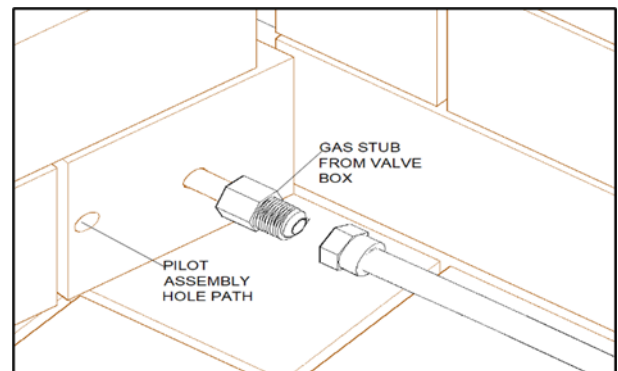

FIGURE 8
7. Connect the open end of 12" flex connector to the gas-supply. Figure 8